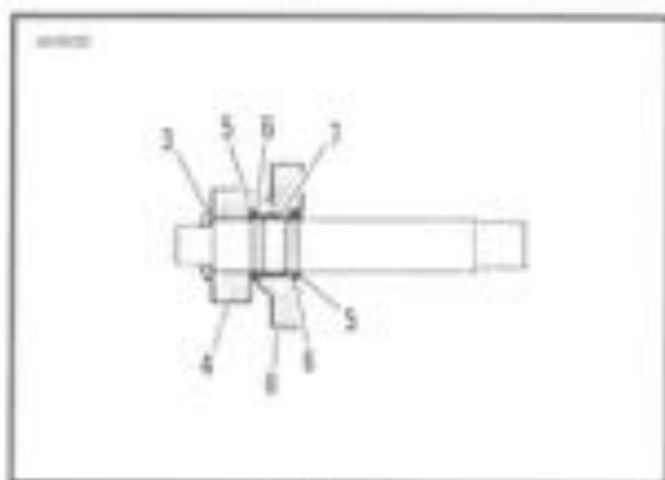
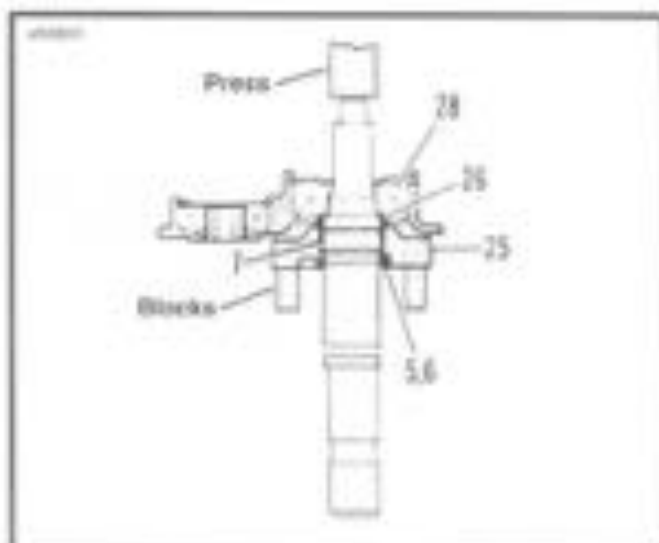

Figure 6-34.
Figure 6-35.
9. See Figure 6-34. Remove beveled spacer (3) and countershaft 4th gear (4).
10. Expand retaining ring (5) located next to countershaft 1st gear (8). Remove retaining ring (5) and thrust washer (6). Slide countershaft 1st gear off end of shaft. Remove split bearing (7).
11. Remove thrust washer (6). Expand remaining retaining ring (5) and slide off shaft. This completes disassembly of countershaft.
- See Figure 6-35. Place mainshaft and access door assembly on arbor press with support under mainshaft 4th gear (25). Press on end of shaft until mainshaft is free of access door bearing. Remove spacer (26), mainshaft 4th gear (25) and split bearing (7).
- Remove thrust washer (6). Expand and remove remaining retaining ring (8).